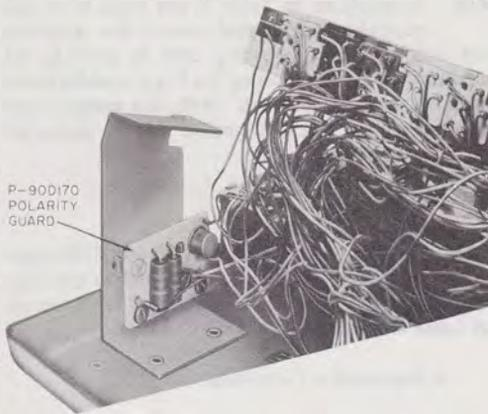

Fig. 8—2830-Type Telephone Set With P-90D170 Polarity Guard, Installed
3.10 Polarity Guard (2830-type only): Should be used only when specified by local instructions for end-to-end signaling installations where battery and ground reversals may be encountered. A P-90D170 polarity guard assembly may be installed on the right key bracket with screw provided (Fig. 8).